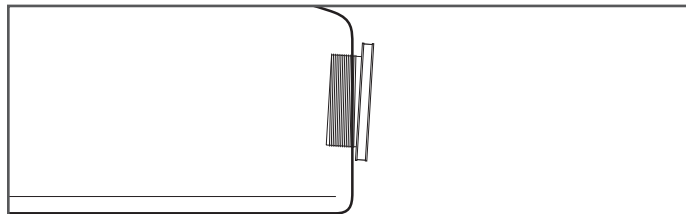

Figure 23-7
5. Install the body of the Chase Pipe Entry Fitting through the sump wall (Figure 23-7).